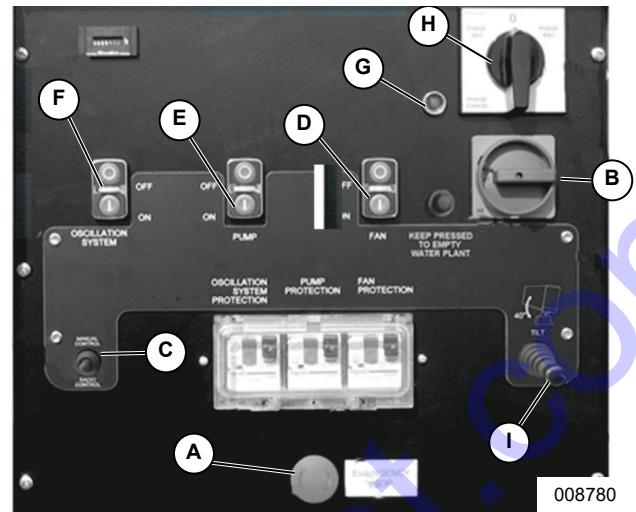

Figure 3-5. Control Panel
NOTE: See Figure 3-5. Stop the unit at any time by pressing emergency stop (A).
See Figure 3-5. Use control panel tilting lever (I) or remote control tilt buttons to adjust tilt 0 to 40°.
- See Figure 3-5. Verify emergency switch (A) is in the out, armed position. If emergency switch is not armed, twist counterclockwise to reset.
- Turn input switch (B) ON.
- Set manual control switch (C) to MANUAL.
- Press fan (D) ON.
- Press water pump (E) ON.
- If using automatic oscillation system, press oscillation system (F) ON.
- See Figure 3-5. Verify oscillation is switched OFF (F).